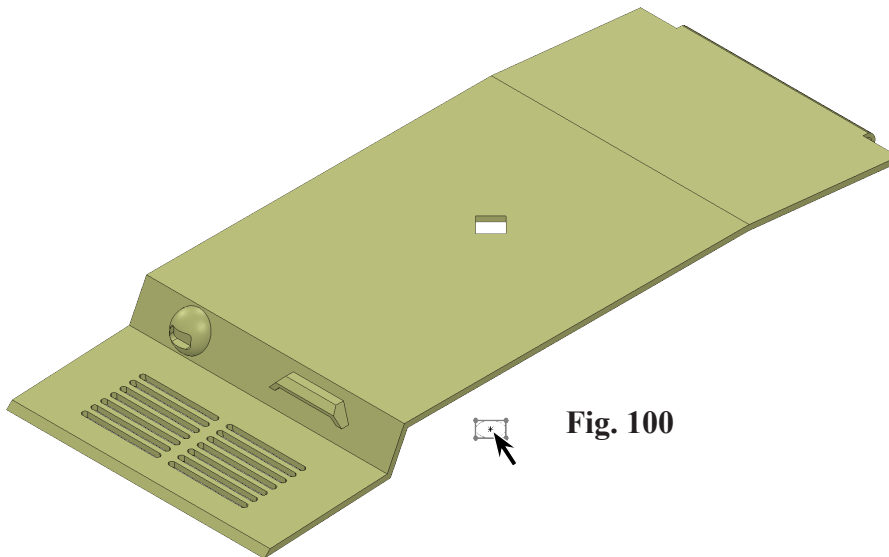

Fig. 100
Step 5. Sketch **point at centerpoint of construction circle** in Sketch4, **Fig. 100.**